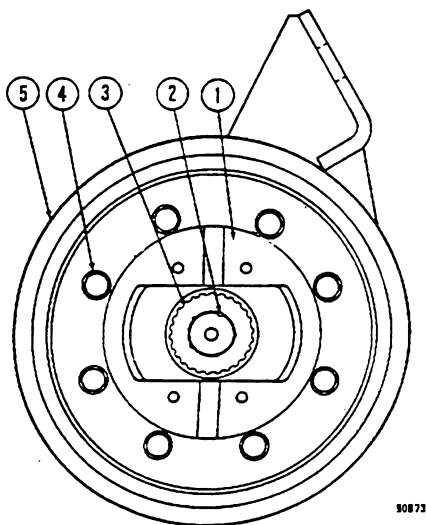

FIGURE 5-4. PARKING BRAKE DRUM REMOVAL
2. Apply parking brake to keep companion flange from rotating while splined locknut (3, Figure 5-4) is removed. Remove lock plug (2) and loosen splined nut (3).